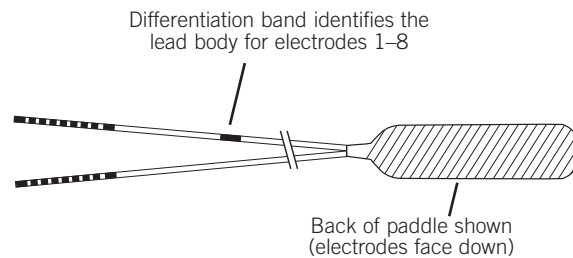

FIGURE 15
**NOTE:** All 16-electrode leads have two lead bodies exiting the paddle. The lead body exiting from the left side of the paddle (when the electrodes are face down) is connected to electrodes 1–8. This lead body (1-8) is distinguished by a “differentiation” band (see Figure 15) near the connector end of the lead (available only on the Lamitrode Tripole™ 16 and Penta™ leads).